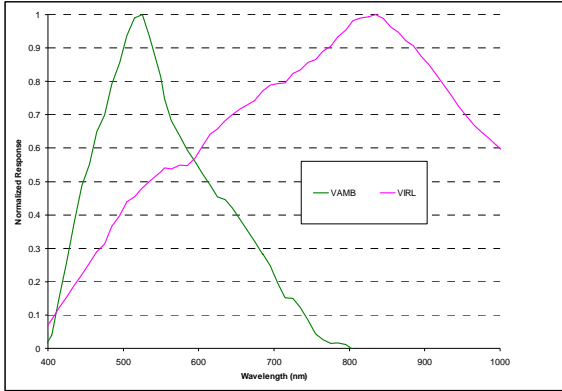

Figure 9. Si1120 Typical Spectral Response
- Added Figures 9, 10, 11,12, 13, 14, and 15.